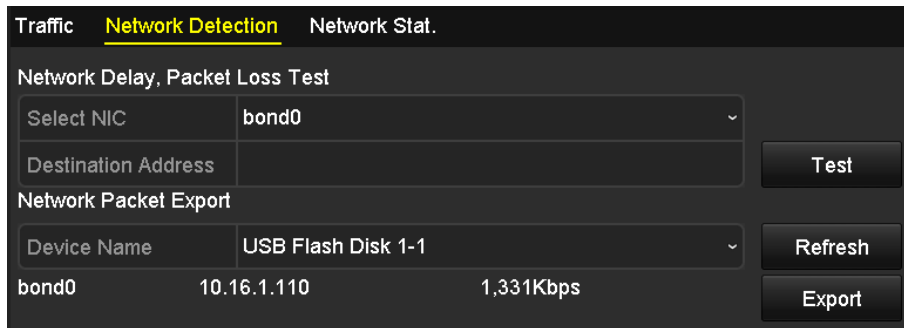

Figure 11. 28 Network Detection Interface
2. Click the **Network Detection** tab to enter the Network Detection menu, as shown in Figure 11. 28.